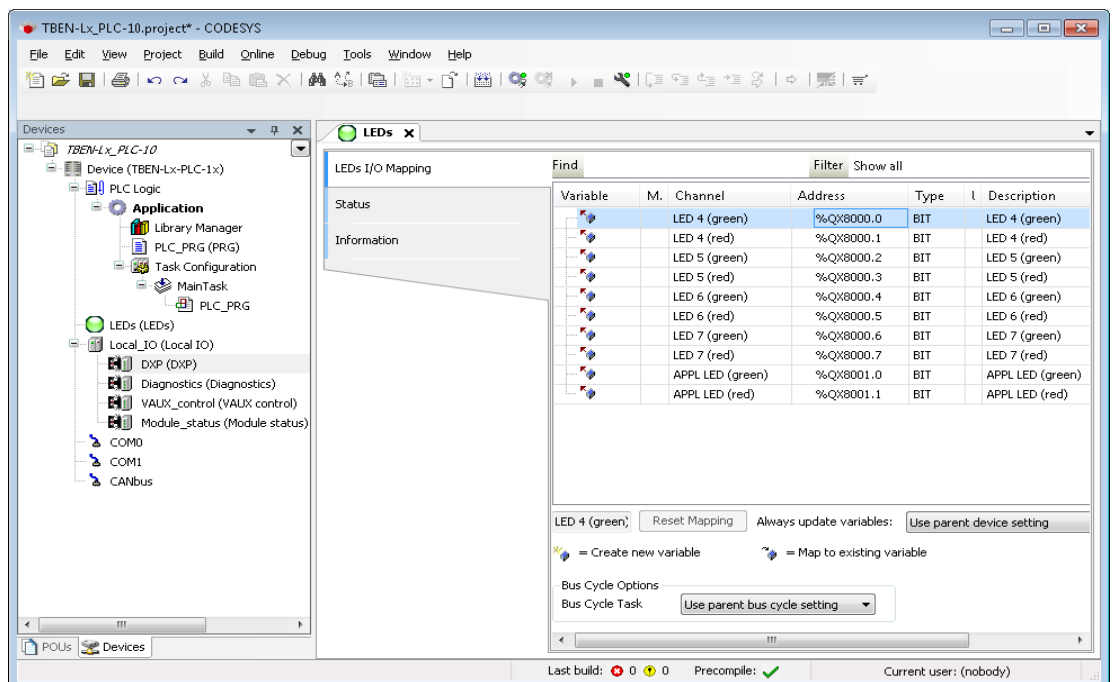

Fig. 3: CODESYS project
- Each LED uses 2 bit in the process output data of the device. They are automatically mapped to the output bits %QX8000.0 to QX8001.1 (see Fig. 3: CODESYS project (page 6)).